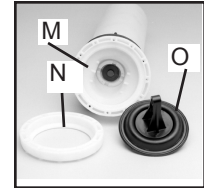

Figure 9.
10. Place diaphragm assembly (O) onto the pump housing (M). Place the flange (N) over the diaphragm. Reinstall the 12 torx screws around the outside diameter of the flange. Figure 9.